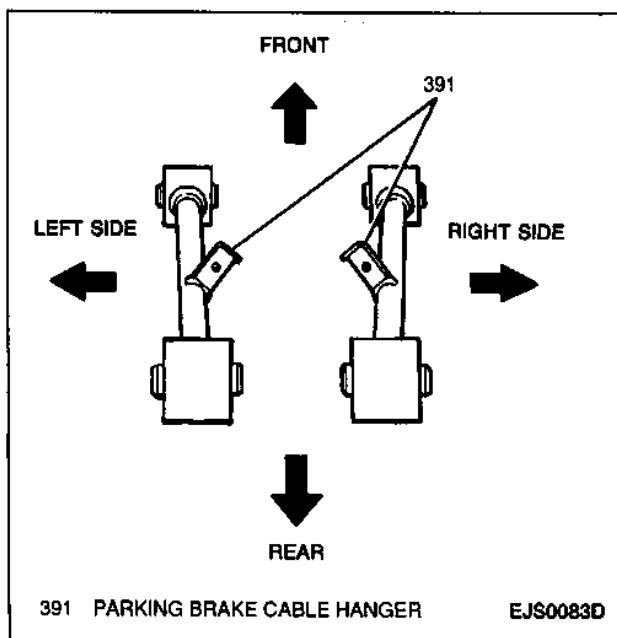

Figure 8—Right and Left Trailing Arms
- If both trailing arms were removed, inspect rods to distinguish between right and left rod prior to installation (Figure 8).